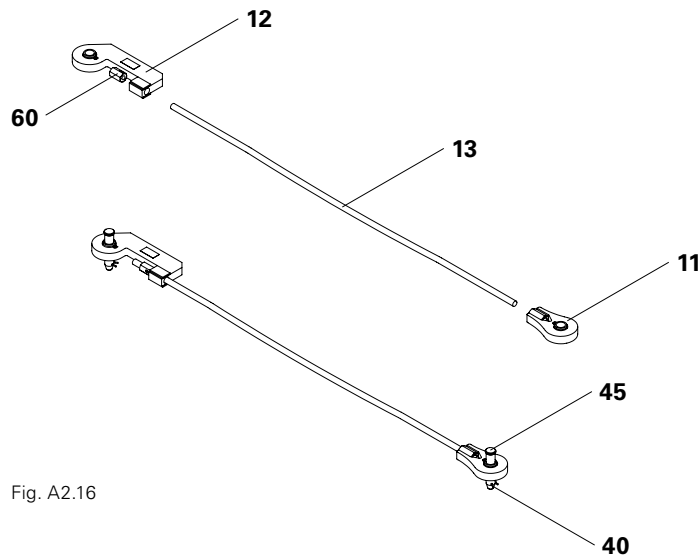

Fig. A2.16
1. Screw tie rod (13) into the eye nut (11) (Fig. A2.16).